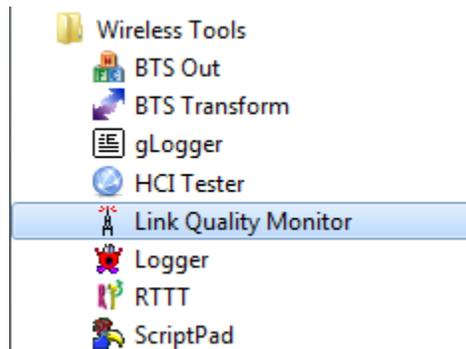

Figure 25. Starting the LQM
1. To start the LQM, click the Link Quality Monitor program icon (see Figure 25).